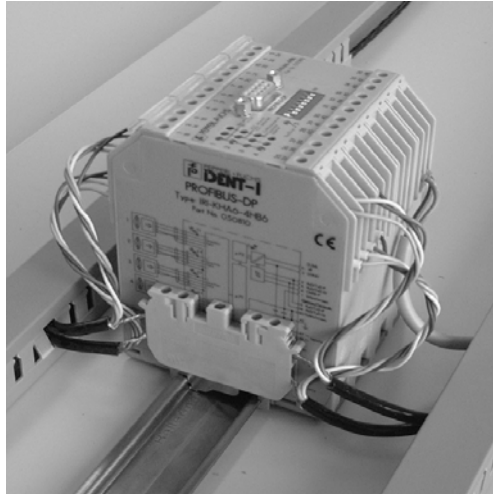

Figure 5.5 Terminal block with connecting cables
The screen of the read head lead is connected on both sides to earth (PE) with low resistance and low induction. For that the attached terminal block can be used (see Figure 5.5.). Please make sure that the screen is kept as small as possible.